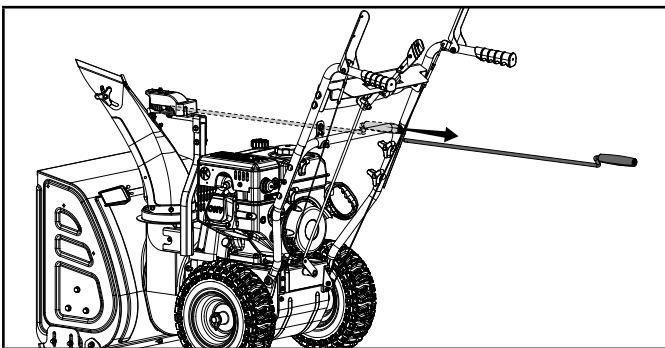

Figure 40
3. Remove the lever from the discharge chute bracket (Fig. 40).